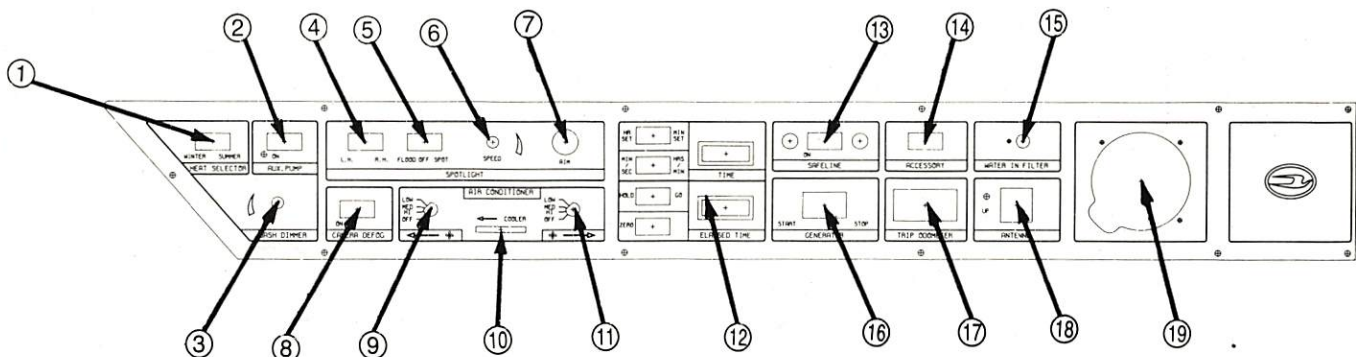

Figure 2-12. Pilot's Area Overhead Dash.
The switches for raising or lowering the antenna are located in the Pilot's Area Overhead Dash and Radio Panel, figure 2-12, item 18.